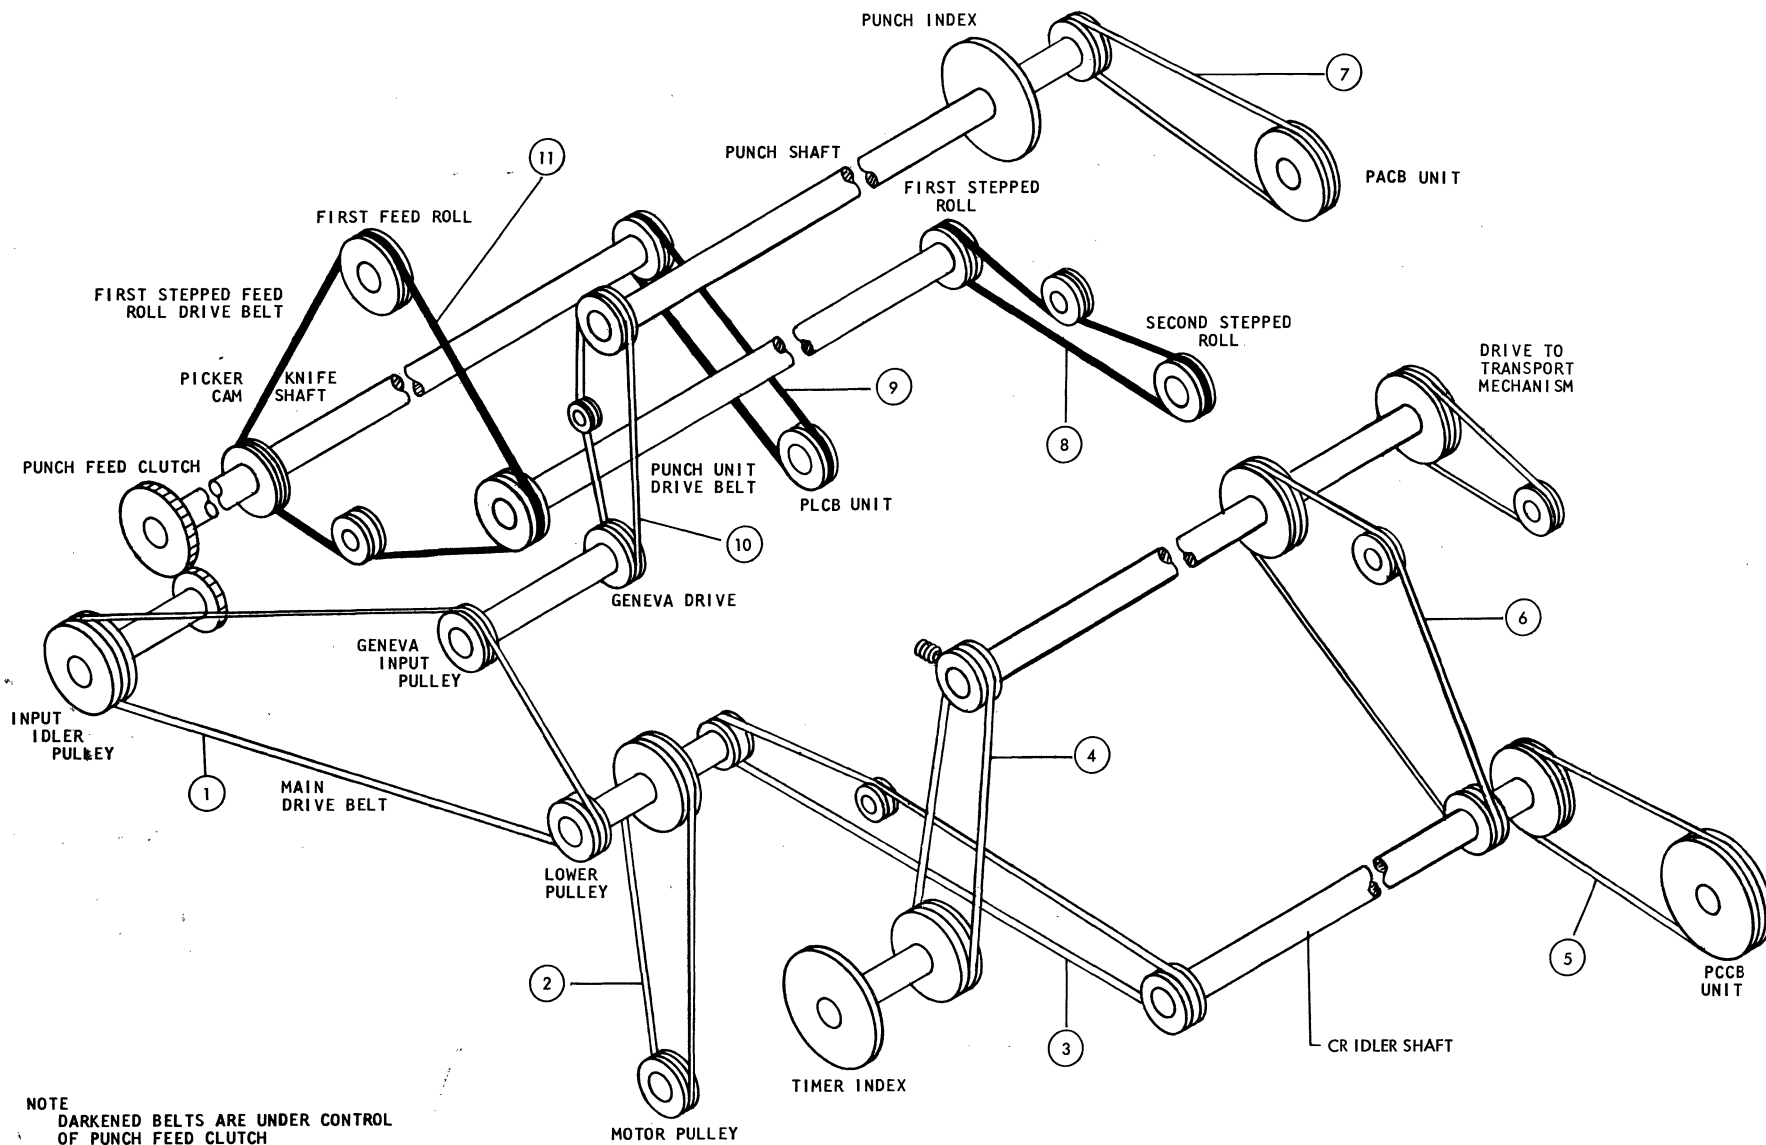

Figure 5-2. Punch Feed Timing Belts
3. Retime index timer by loosening timer index set screws (Figure 5-2). Unlatch punch clutch between 230° and 300° and while holding the armature in the tripped position, continue turning machine until latching surface of clutch arm and dog carrier coincide (Figure 4-2F).
1. To get belt replacement clearance (if necessary) loosen timer index mounting screws (3).
3. To time timer index, loosen index pulley set screw (Figure 5-2). Set punch unit to 0° and depress geneva pin.
(5) PCCB Drive Belt